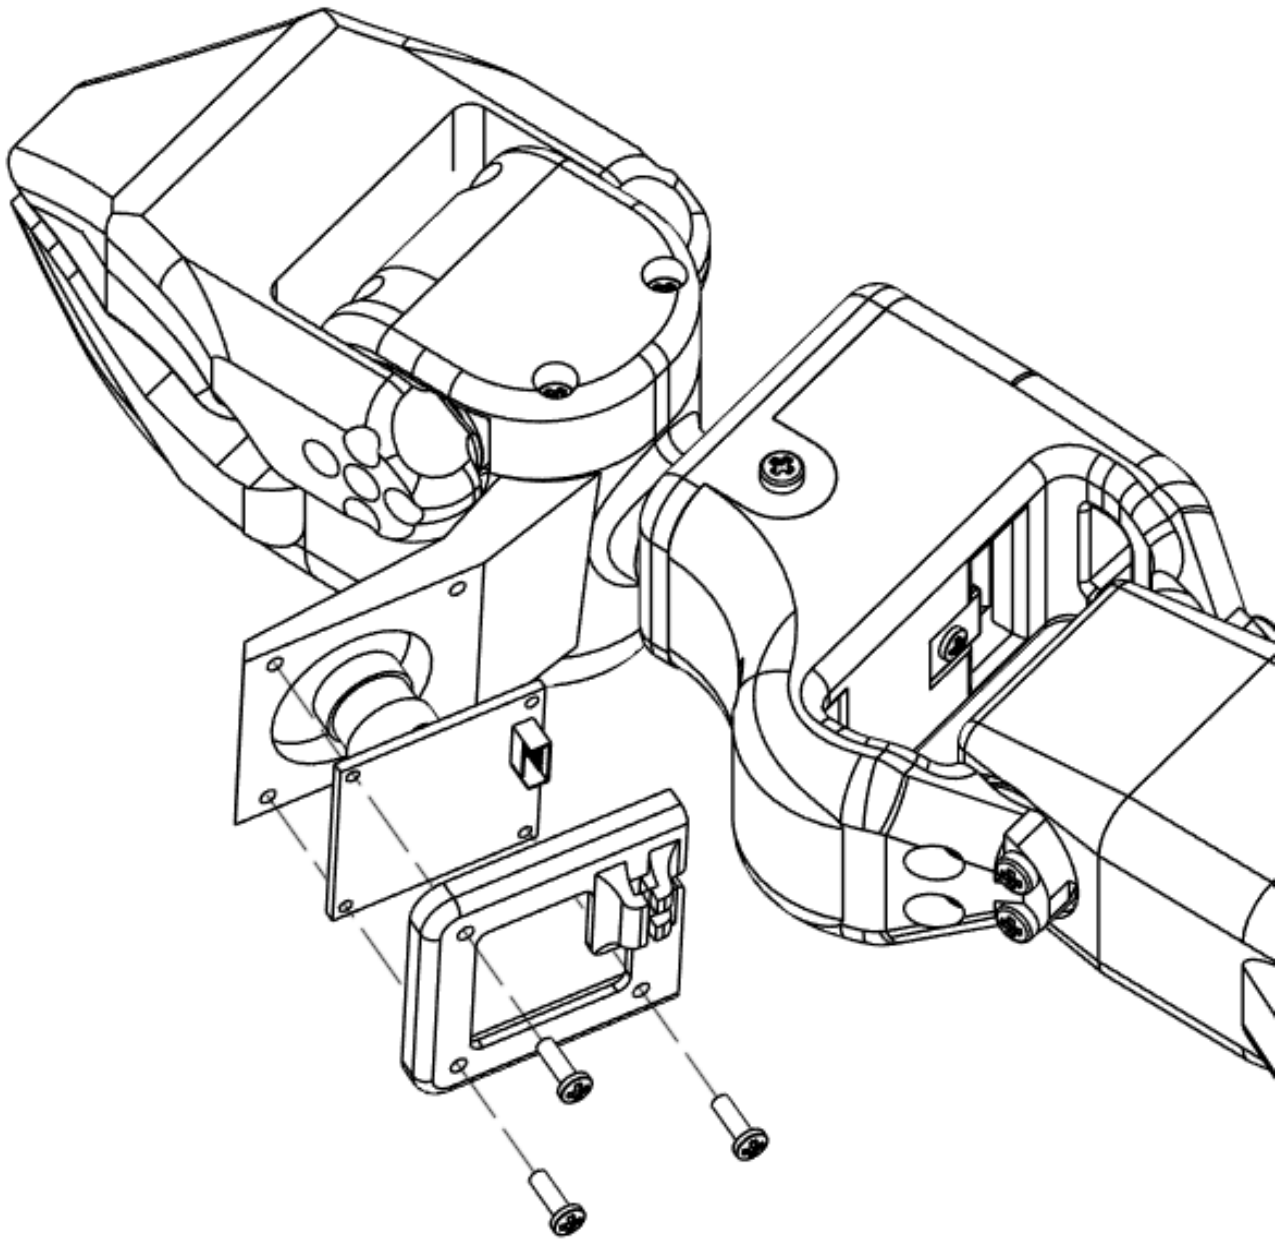

Figure 10.28 - Arm Camera & Cover Assembly
- 36.** Fasten Camera and Arm Camera Cover to Gripper Base as shown in Figure 10.28
- a.** (3) M2.5x8mm